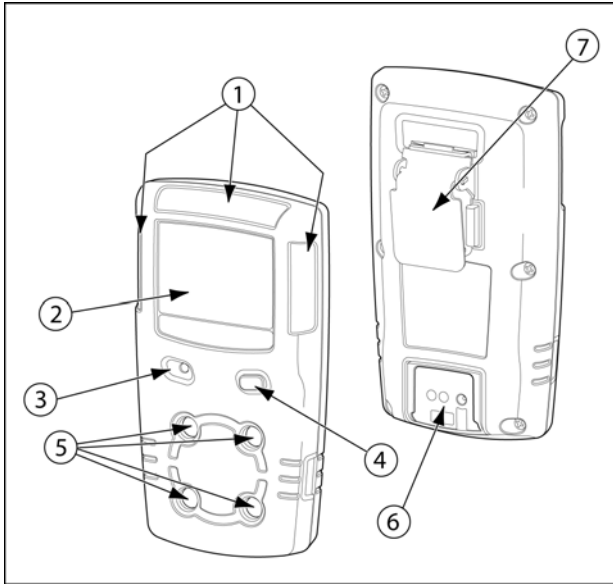

Figure 1. GasAlertMicroClip Detector
- Figure 1 and Table 3 describes the detector's components.